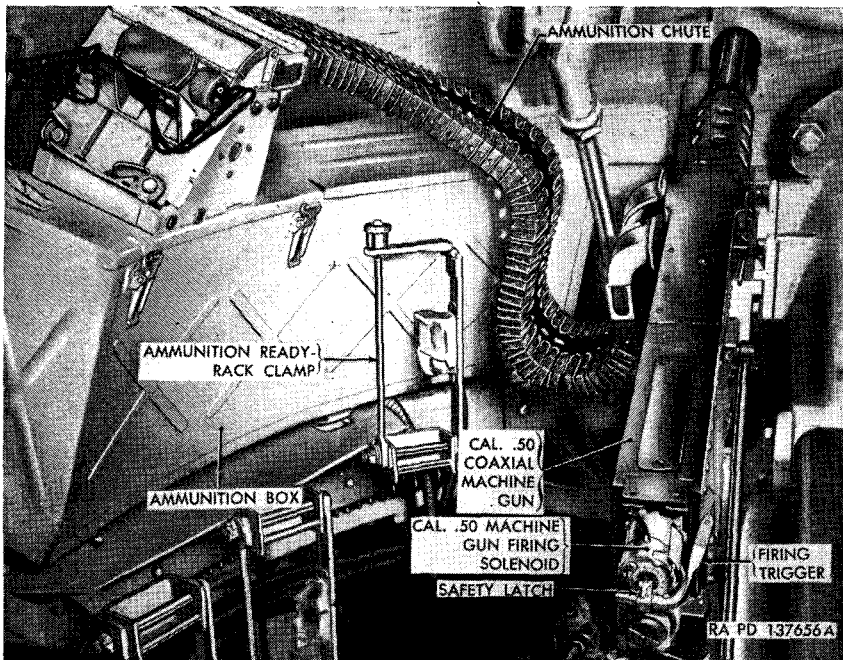
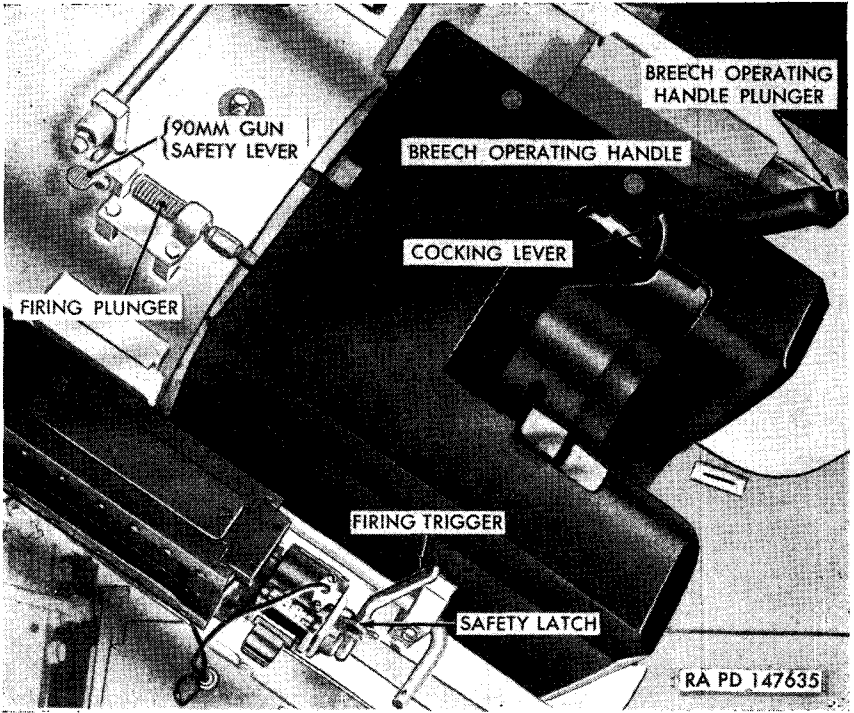

Figure 39. Coaxial machine gun—installed view.
Figure 41. 90-mm. gun manual controls.
a. SAFETY LATCH. The cal. .50 coaxial machine gun safety latch (fig. 39) is a small "L"-shaped component of the trigger assembly and can be pivoted 90° from its safe position shown in figure 41.
b. FIRING TRIGGER. When the safety latch is pivoted forward 90°, the machine gun can be fired manually by pressing forward on the firing trigger (figs. 39 and 41) which forces the tip of the safety latch into contact with the solenoid plunger which releases the sear and permits firing of the machine gun.
a. SAFETY LEVER. The 90-mm. gun safety lever (fig. 41) locks the firing plunger and makes it inoperative when in "SAFE" position. As shown in figure 41, the gun is in the "SAFE" position. By pressing down on the lever and rotating it 180°, the gun is made ready for firing.
c. COCKING LEVER. The 90-mm. gun cocking lever (fig. 41) is actuated manually by pulling the lever to the rear. Normally it is automatically actuated as the breechblock is lowered by the camming action between the cylindrical lug on the right side of the cocking lever shaft and the bottom arm of the cocking lever.
d. **BREECH OPERATING HANDLE.** The breech operating handle (fig. 41) is a long flat bar with a locking plunger at one end and a hub at the other end which fits over the right end of the operating shaft. To open the breech manually, press the locking plunger and pull the operating handle to the rear.